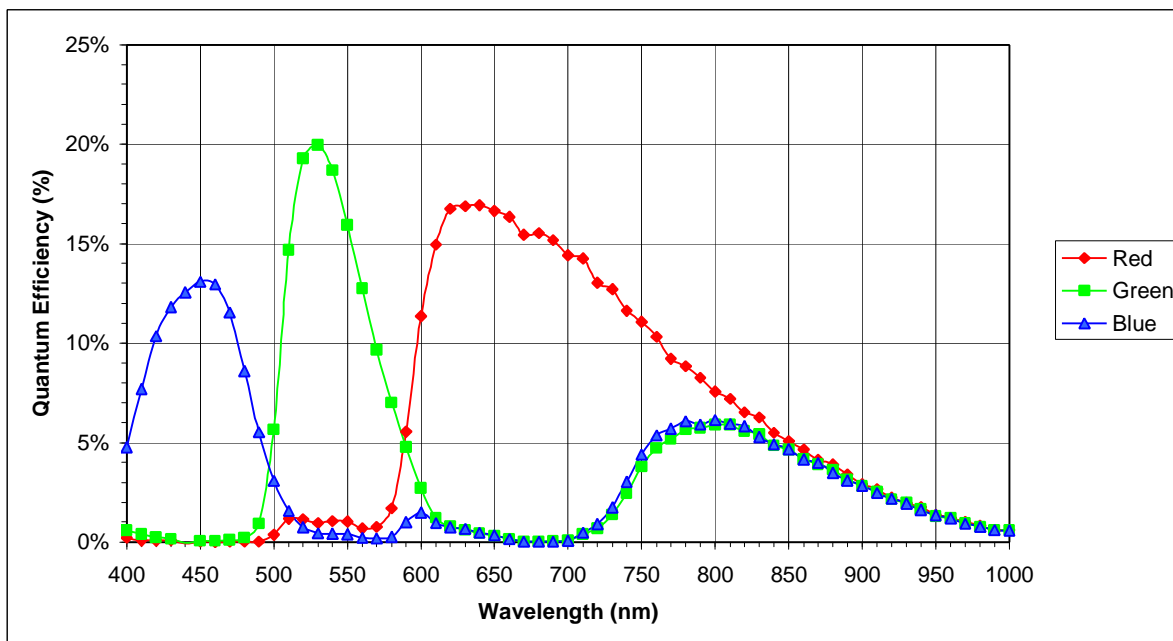

Figure 14 Nominal KAI-0372CM Spectral Response
- Refer to typical values from Figure 14, Nominal KAI-0372CM Spectral Response